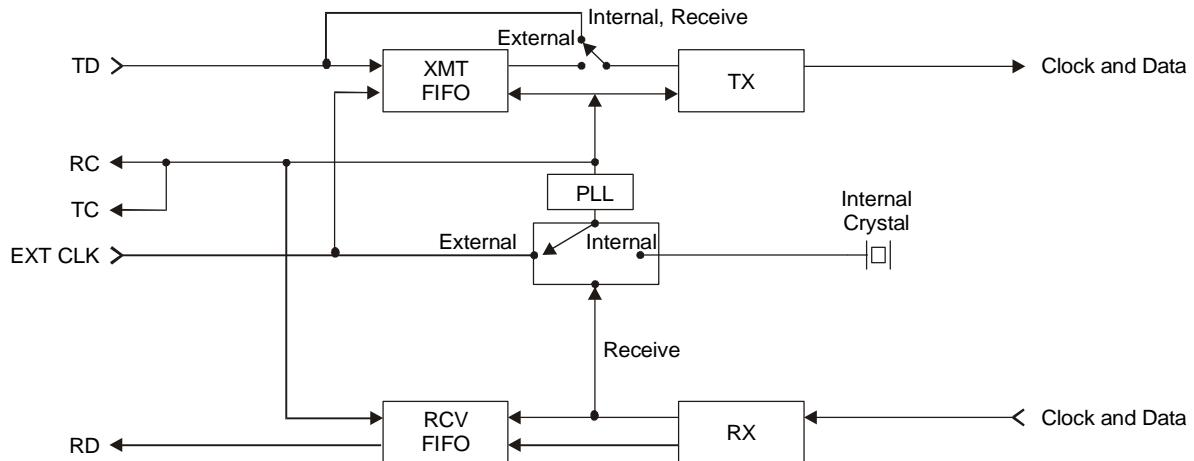

Figure 1-6. Clock Diagram
- Externally, from the receive signal (see *Figure 1-6*).